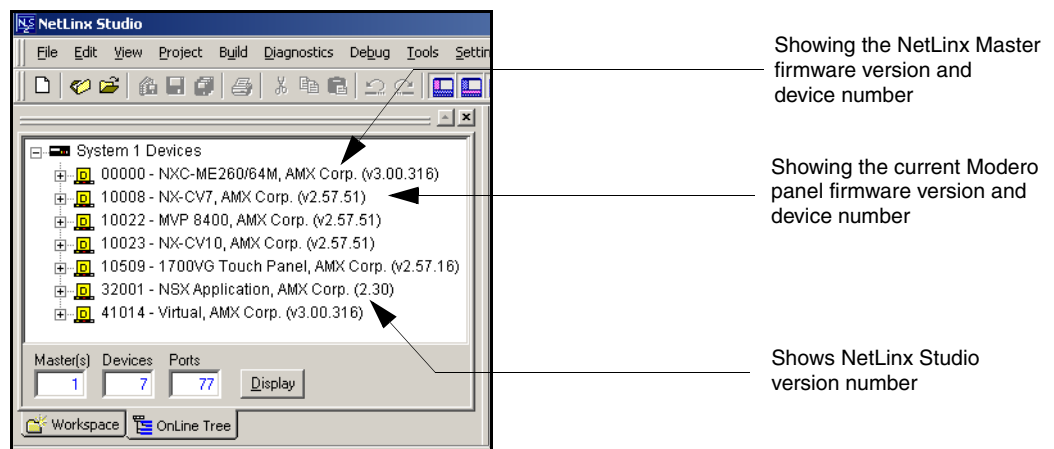

FIG. 74 NetLinx Workspace window (showing connected Modero panel)
3. After the Communication Verification dialog window verifies active communication between the PC and the Master, verify the panel appears in the **OnLine Tree** tab of the Workspace window (FIG. 74). *The default Modero panel value is 10001.*